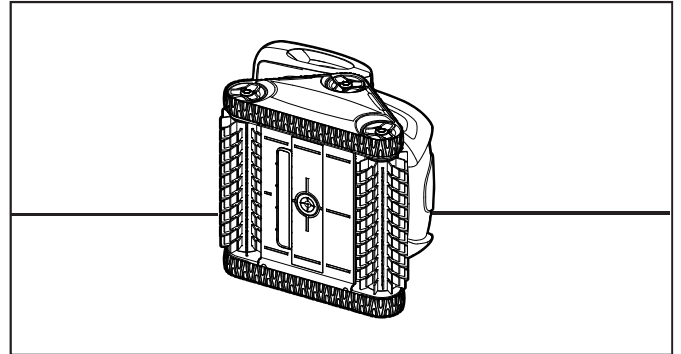

**Figure 18. Cut Tabs**
- Use scissors to cut the tabs at the guides, as shown in Figure 18.